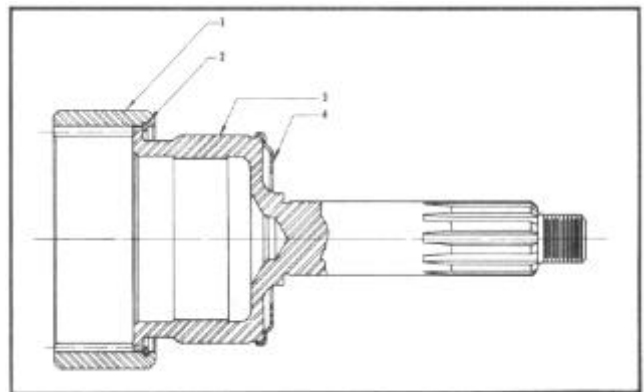

FIGURE 13
3. Removing lock ring (2), Figure 13, will permit the removal of the ring gear (1) from the overdrive main-shaft (3). The oil slinger (4) can be pried off and replaced if required.